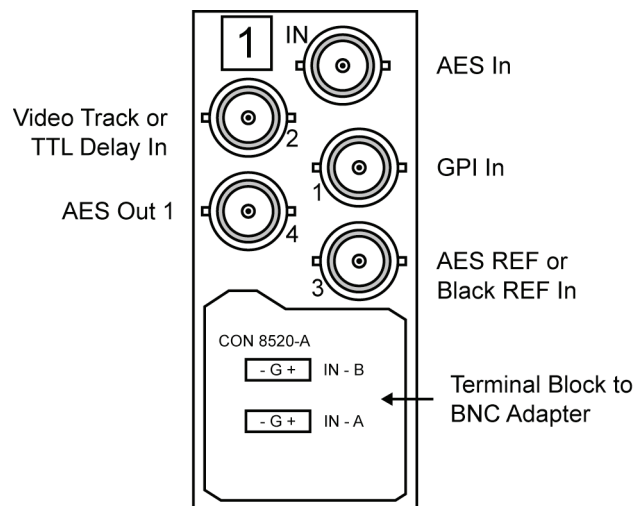

Figure 10. ADL-8520A-A BNC Designations for RossGear DFR-8110A (2RU Frame)
1. On the back of the RossGear digital rack frame, install the CON-8520-A Adaptor onto the corresponding BNC connectors for the slot the card will occupy. Refer to **Figure 10** for BNC designations.